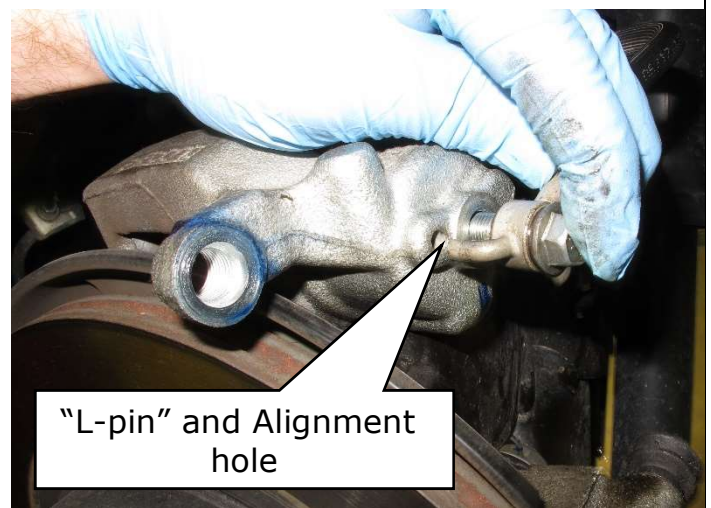

Figure 13
- Install the union bolt and brake hose onto the brake caliper, by lining up the brake hose "L-pin" with the alignment hole in the brake caliper (Figure 13)